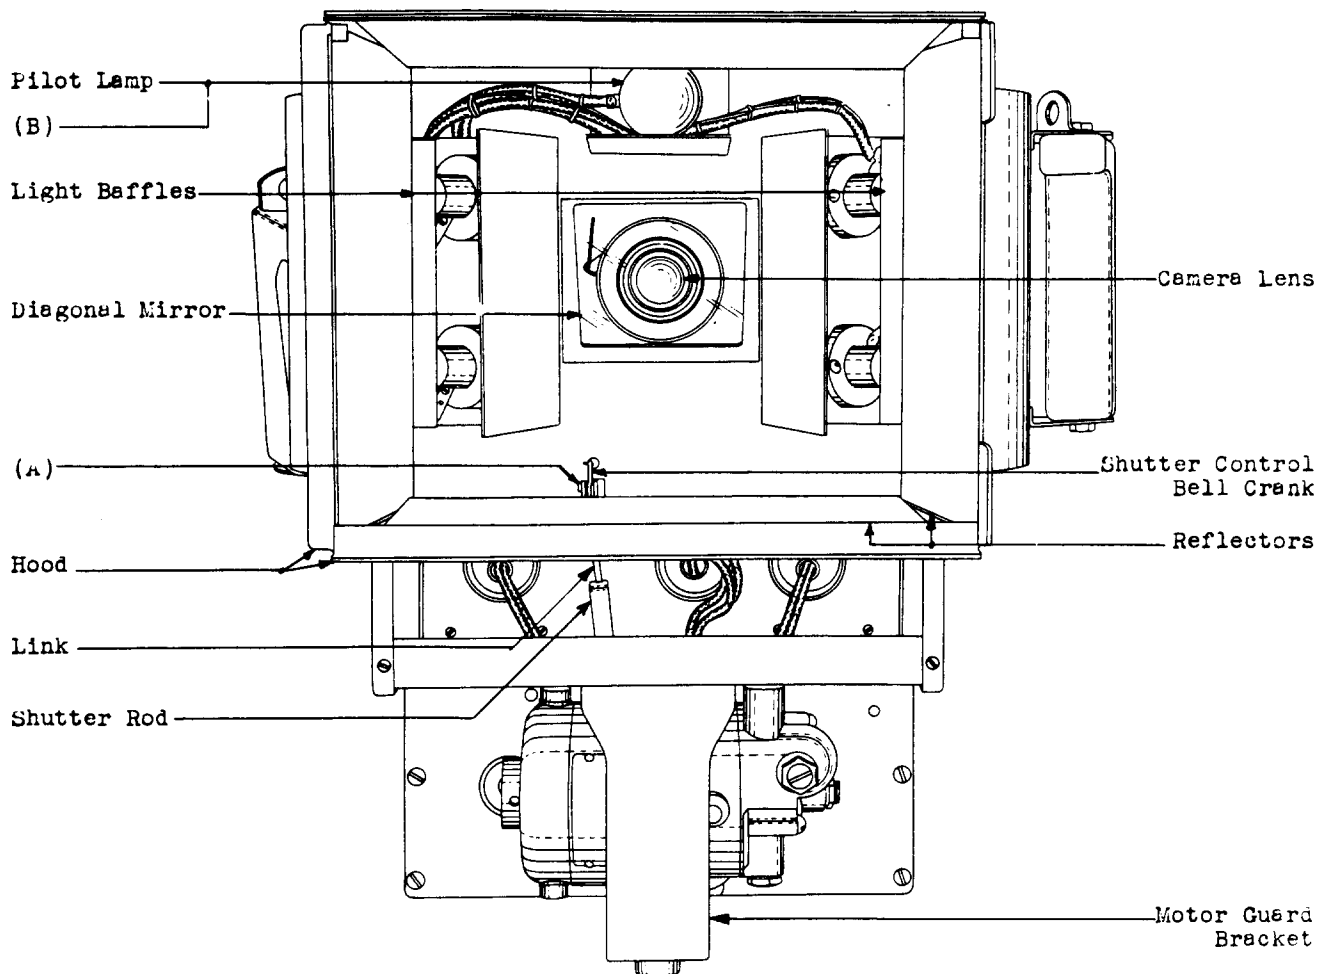

Fig. 5 - KS-8320 Camera - Looking Into Hood
- (6) Shutter Control Bell Crank - Fig. 5 (A)
- (8) Shutter Control Bell Crank - Fig. 5 (A)
Type S11 (Signal Lamp - Fig. 1(B) & Pilot Lamp - Fig. 5(B))	15 W. - 105-120 V. Candelabra Screw Base Lamps (For KS-7703 and KS-8320 Cameras)